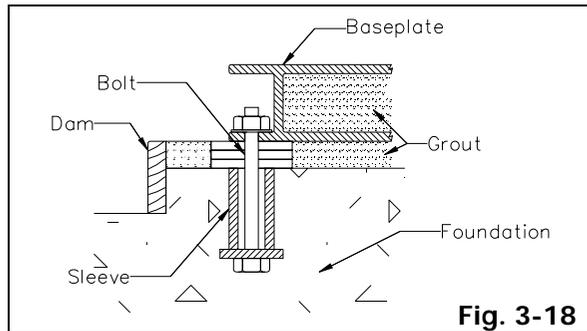

Fig. 3-18
5. Fill remainder of baseplate with grout. Remove air as before (Fig. 3-18).